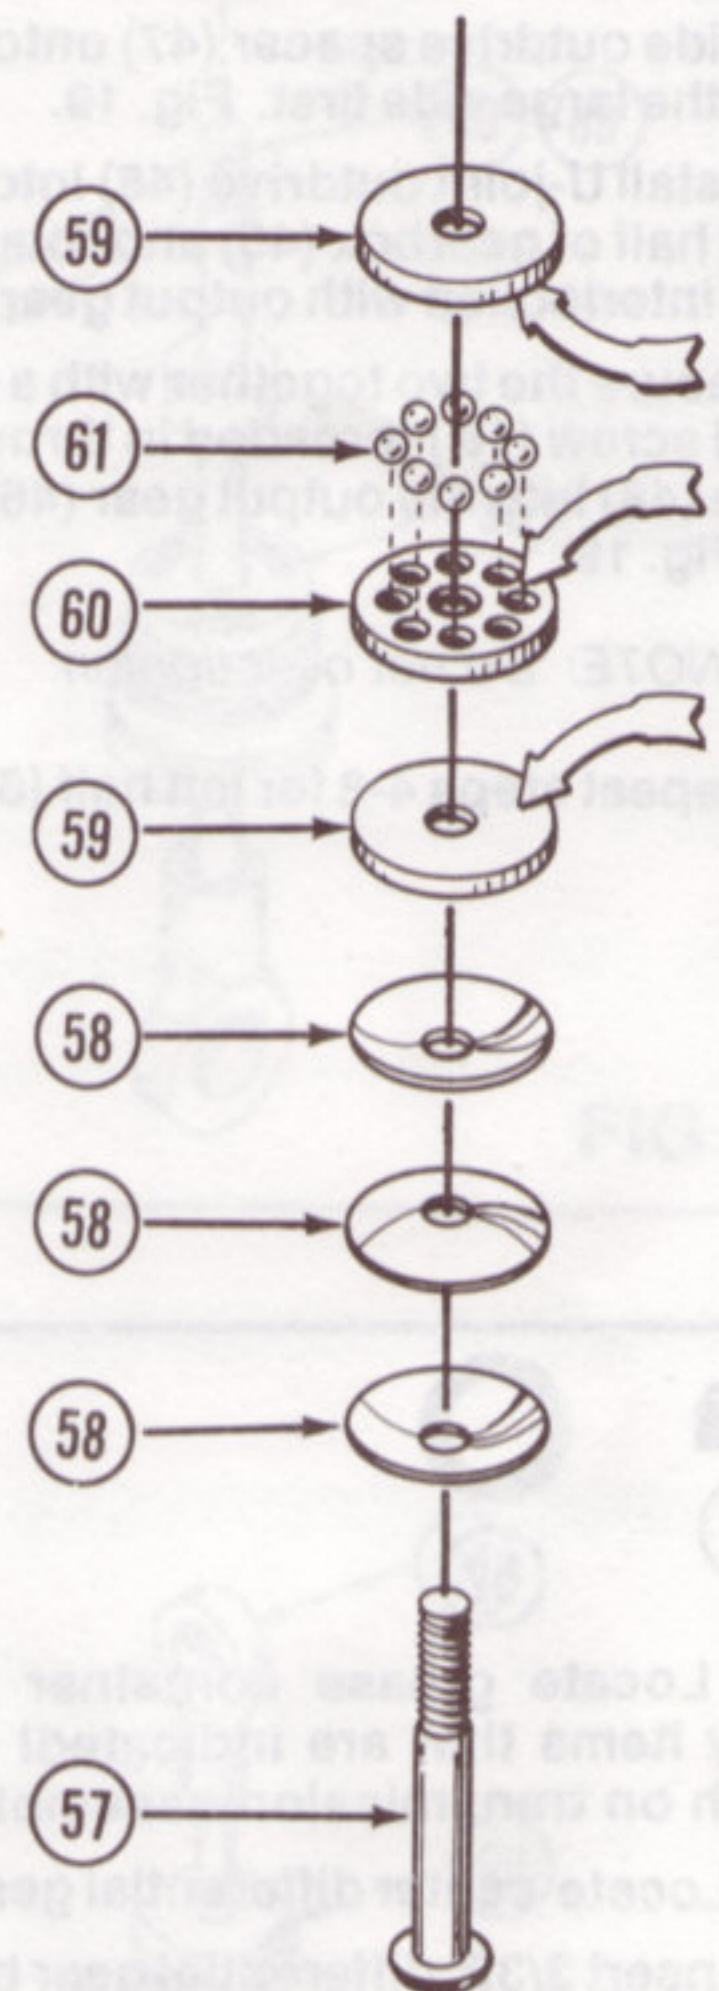

FIG. 21
19. Using 5-40 x 7/8" button head shoulder screw (57) assemble thrust assembly in the following order. Fig. 21.
20. Slide three opposing belleville cone washers (58) down the 5-40 x 7/8" button head shoulder screw (57) with the tip of the cone of the first washer (58) against the head of the screw (57). Fig. 21.
* NOTE: The belleville washers are black. The washers (58) should be opposing (ie; the tops of the cones should meet and the bottoms of the cones should meet).
21. Slide one well greased thrust washer (59) down screw (57) shaft as shown. Fig. 21.
* NOTE: The thrust washer should only touch the big edge of the last belleville (58). Grease thrust bearing side of washer only as indicated by arrows
22. Slide well greased bronze bearing cage (60) down screw (57) shaft. Fig. 21.
23. Insert eight 1/16" thrust balls (61) into the cage (60). Fig. 21.
24. Slide the second well greased thrust washer (59) down screw (57) shaft. Fig. 21.